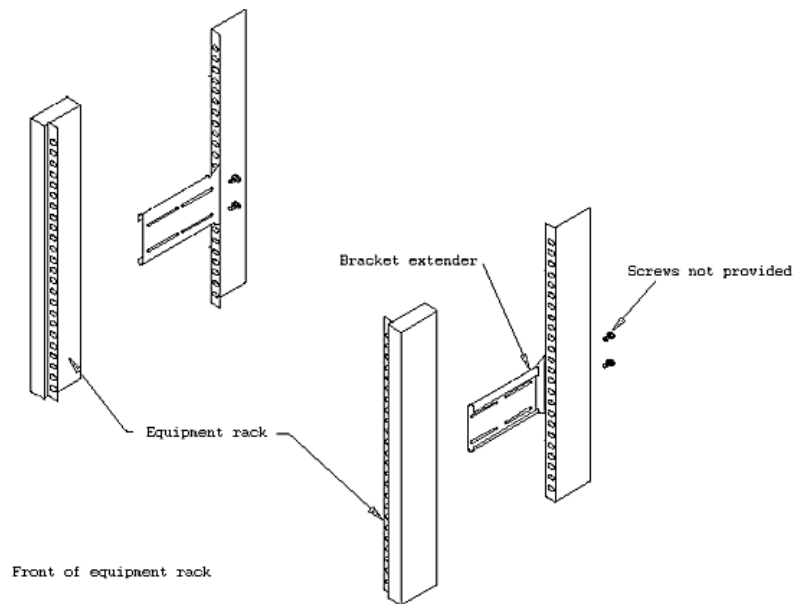

Figure 4. Installing Bracket Extenders
1. Determine the desired location. For proper placement of the brackets and extenders, it is recommended that you first assemble the unattached brackets and extenders in the equipment rack, using your own bracket-mounting screws or clips. Then remove the front two brackets as illustrated in Figure 4 (be sure to mark their places on the equipment rack). The VSR-2 requires 6.5 vertical inches (4 shelf positions.)